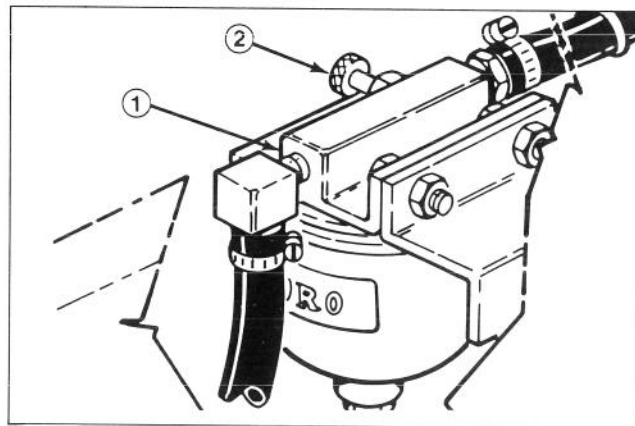

Figure 21
- 2. From the left side of the rear wheel, locate air bleed screw on top of fuel filter/water separator and loosen the screw (Fig. 21).